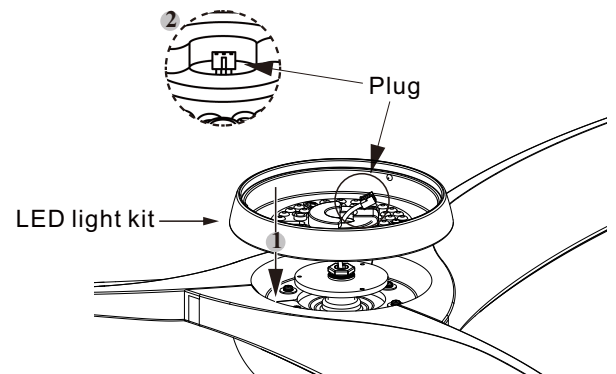

Figure 7
Step 2. Pull the light wire from motor through the hole of light kit. Connect the plug as drawing. (Fig 7)